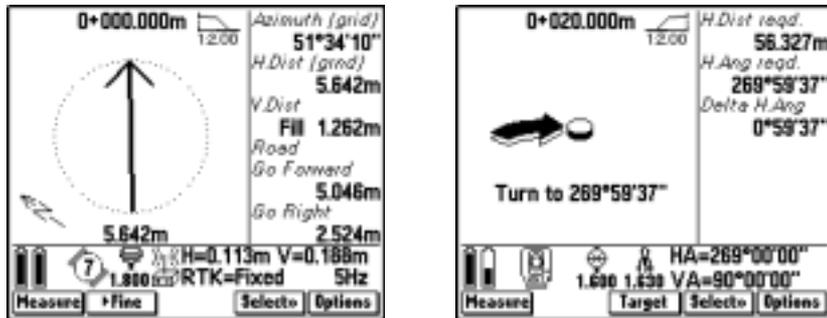

Figure 18.12 Stakeout graphical display for side slope point – gps or conventional survey
1. Select a side slope point and press **Start**. The stakeout graphical screen display appears, as shown in Figure 18.12.